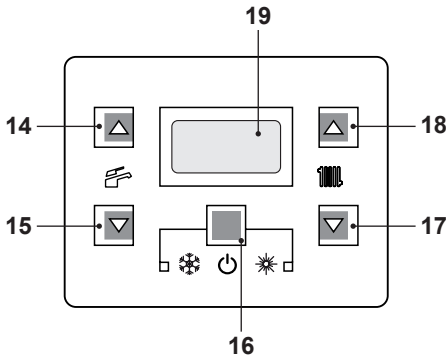
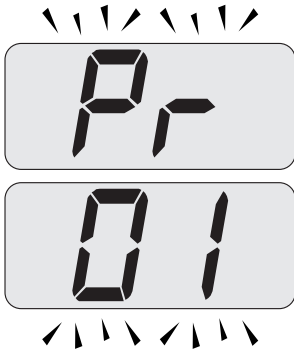

Fig. 9.3
Fig. 9.4
- Enter in "programming mode" by sequentially pressing and holding in keys 16 - 17 - 18 (Fig. 9.3) for 10 seconds until the letters **Pr** that alternate with code **01** are displayed on the LCD display, indicating that "parameter 01" (Fig. 9.4) has been activated.
- Press keys 16 and 18 (Fig. 9.3) at the same time until the value of parameter 05 (00=G20) is displayed on the LCD display (Fig. 9.6).
- By pressing key 18 three times, it is possible to change the value of parameter 05 from **00**=G20 to **05**=G31, which is ok for LPG gas.
- By pressing key 16 (Fig. 9.3) confirmation of the inserted value is obtained.
- Press keys 16 and 17 (Fig. 9.3) at the same time to exit without changing the value (return to the parameters list Fig. 9.5).
- Press sequentially keys, 16 - 17 and then 18 (Fig. 9.3) and hold in for 10 seconds to exit the "programming mode".